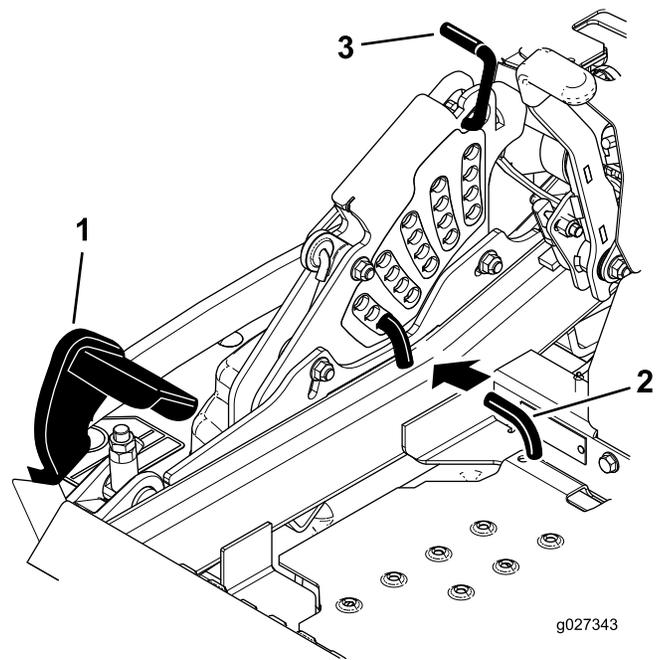

Figure 108
5. Push the deck-lift pedal all the way forward and the deck latches at the 14 cm (5-1/2 inches) transport position (Figure 108).